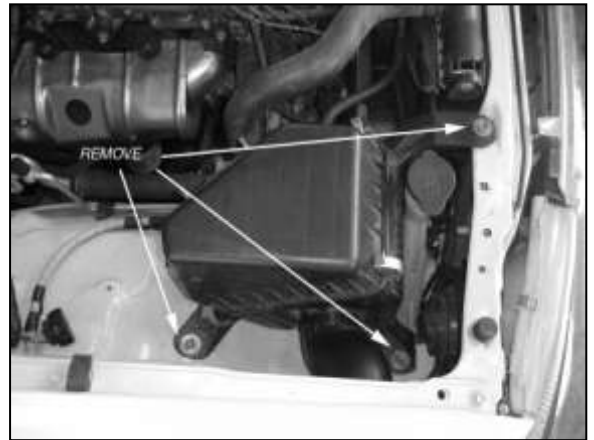

Fig. 5
- m. Loosen the three bolts that secure the lower air box. Remove the stock lower air box from the vehicle (Fig.5)